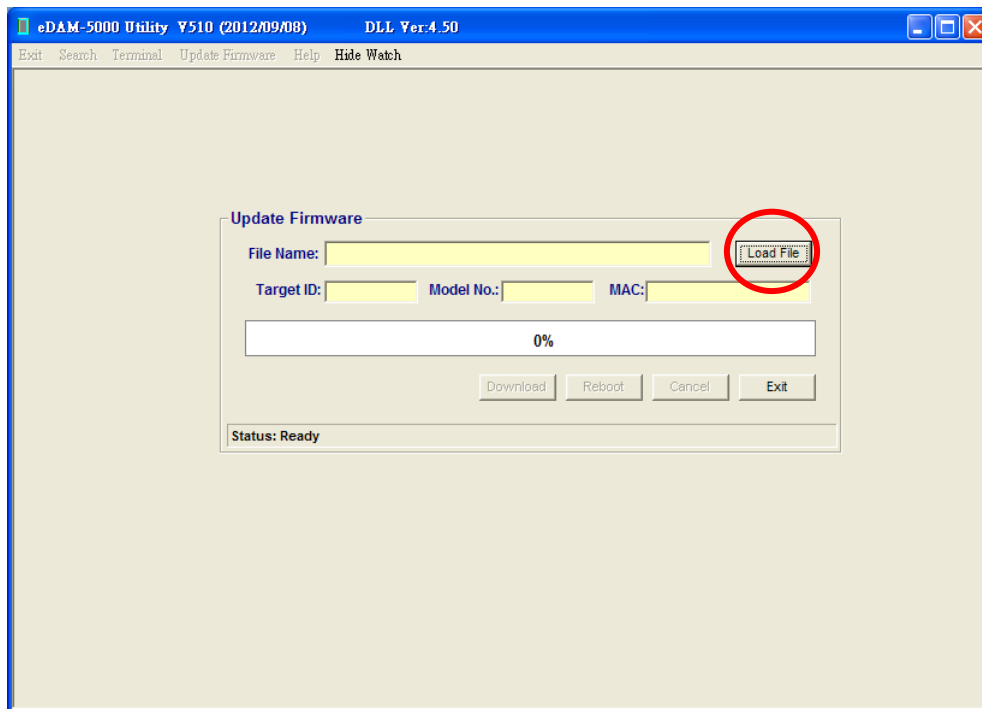

Figure -5
- Click “Load File” button to load firmware file (see Figure -5)